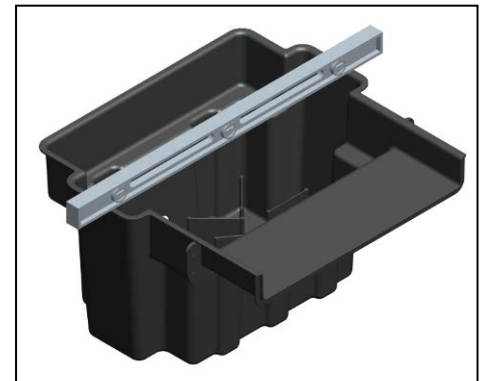

Fig. 2
2. Place the tank in the place that you prepared for it and check that it is level before burying. Fig. 2